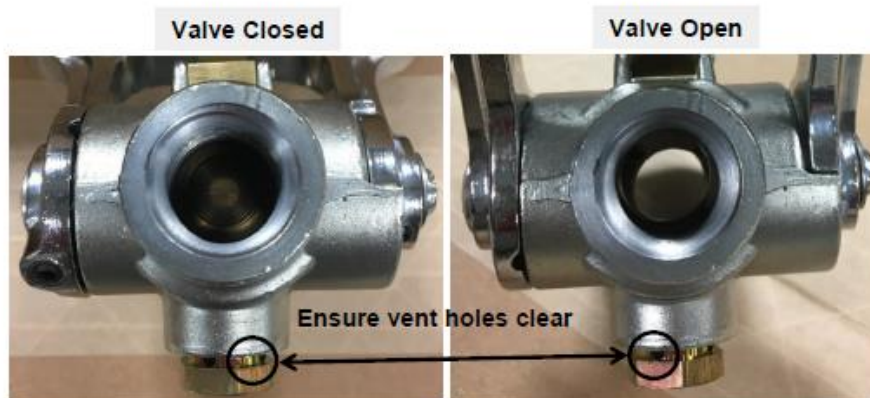

Figure 3: Horn-Valve View Showing Burst Disc Vent Holes
- d. Inspect the burst disc retainer and ensure that the vents are clear (see Figure 3)